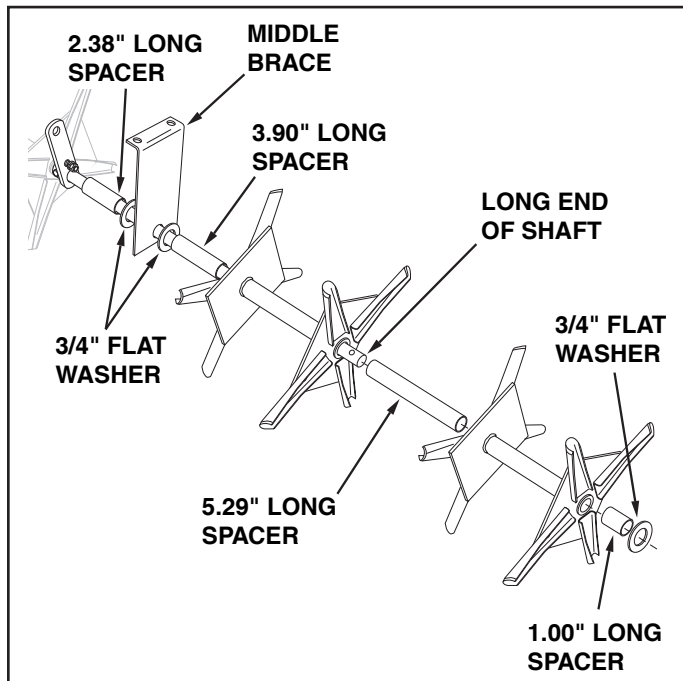

FIGURE 4
6. Assemble a 2.38" long spacer, a 3/4" flat washer, the middle brace, a 3/4" flat washer and a 3.90" long spacer onto the **long end** of the shaft. The bent lip of the middle brace must face the short end of the shaft. Next assemble a double spool assembly, a 5.29" long spacer, another double spool assembly, a 1.00" long spacer and a 3/4" flat washer onto the shaft. See figure 4.